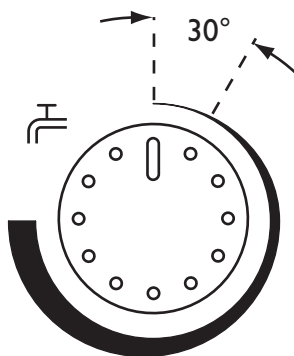

Fig. 5
9. Once the Temperature Control is turned approximately 30° clockwise (Fig. 5) the pre-heat feature is activated.